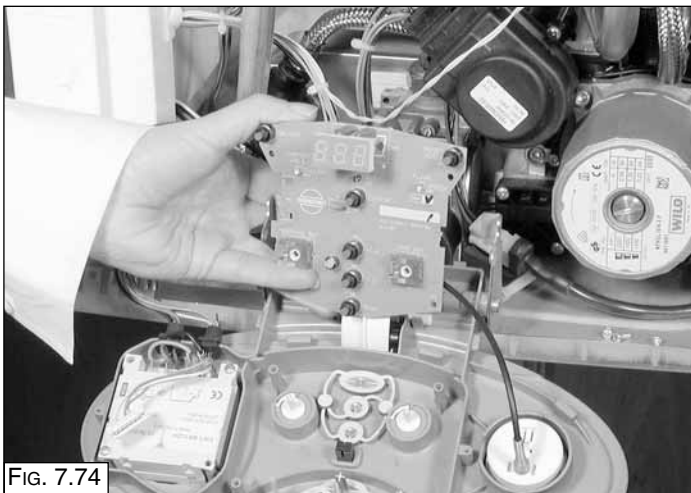

FIG. 7.74
8. Remove the display P.C.B. (Fig. 7.74);